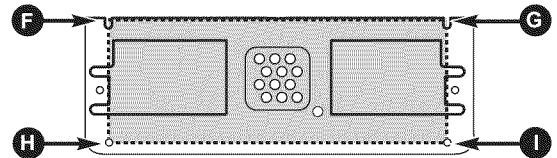

Figure 28
1. Using the Wall-template. This template will give the location and size of the box cutout for the rear wall duct as described in step 5 item 1 (page 15)
2. Using a pencil, put dots through slots "F" and "G", and through holes "H" and "I". Remove the mounting plate and draw lines extending through the points. This will give the location and size of the box cutout for the rear wall duct. See Figure 28.